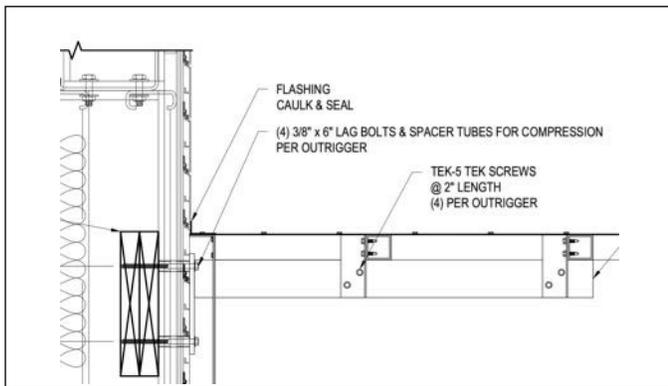
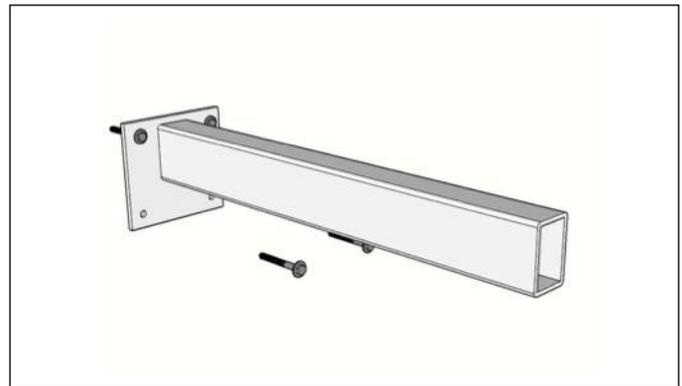

Fig 1
Fig 2
3. Refer to project specific drawing package for intended wall fasteners (Fig 1). Begin installation by laying out tube outriggers (#5) based on the bracket layout shown in the drawings (see fig 2). Use supplied tube outriggers for specific hole patterns.